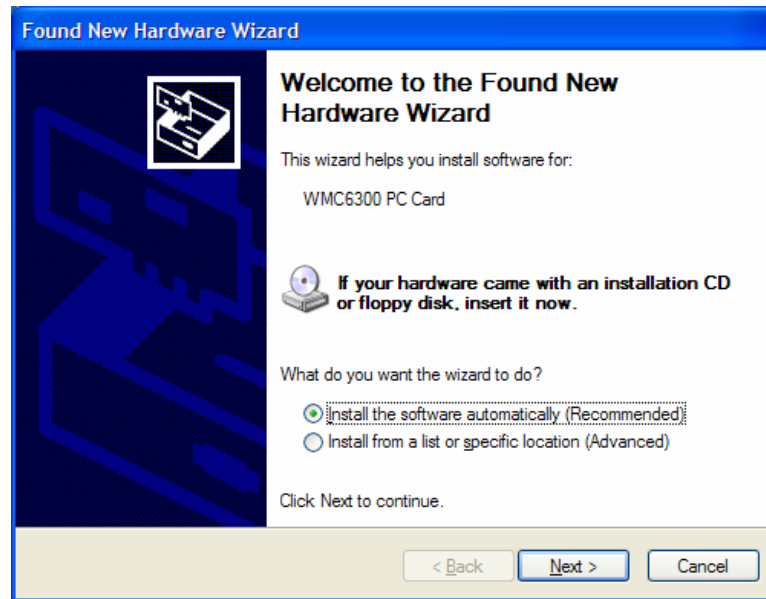

Figure 35. Found New Hardware Wizard – WMC6300 PC Card
8. An additional *Found New Hardware Wizard* for the WMC6300 PC Card will be displayed as shown in Figure 35. Verify that the *Install the software automatically (Recommended)* radio button is selected, and then click on the **Next** button.
4. Highlight "Internet Protocol (TCP/IP)" in the Components dialog box as shown in Figure 35.